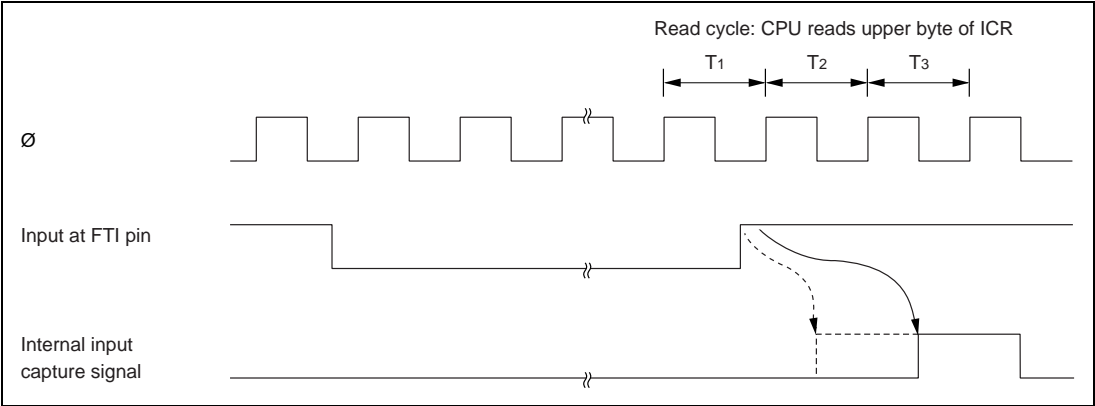

Figure 7.9 Clearing of FRC by Compare-Match A
(3) FRC Clear Timing: If the CCLRA bit in the TCSR is set to “1,” the FRC is cleared when compare-match A occurs. Figure 7.9 shows the timing of this operation.